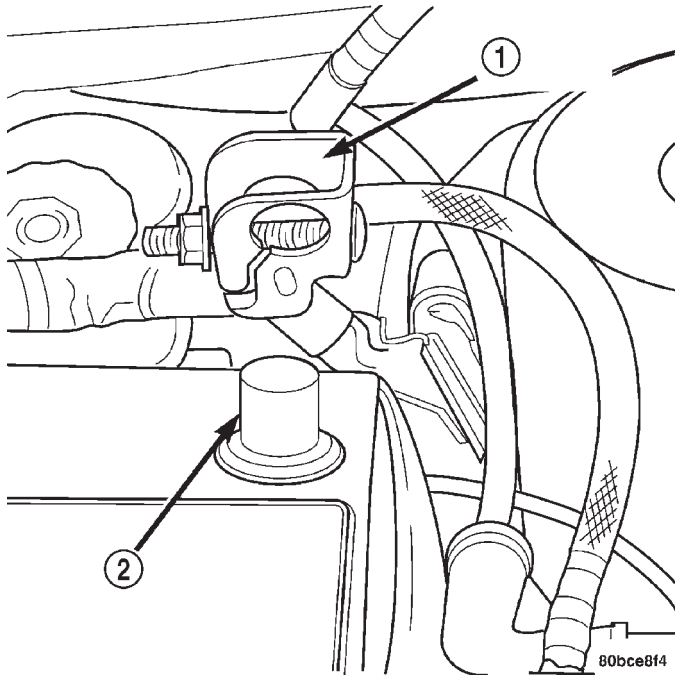

Fig. 5 Battery Negative Cable Remove/Install
(1) Disconnect and isolate the battery negative cable (Fig. 5).
- (1) Disconnect and isolate the battery negative cable (Fig. 5).
- (2) Remove the Driver Airbag Module. Refer to Group 8M Passive Restraint Systems, Driver Airbag Module Removal and Installation.
- (3) Clip off strap tie holding the horn switch wire to the airbag module.
- (4) Unclip horn switch wire connector from airbag module.
- (5) Remove four torx screws from top side of airbag module.
- (6) Fold airbag module cover down to expose the horn switch.
- (7) Lift the horn switch off indexing tabs and remove from vehicle.